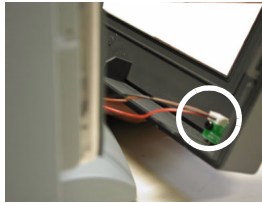

Figure 46
5. Unplug the LED connection (figure 46).